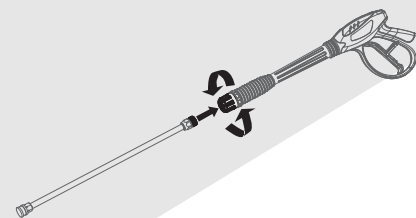

Fig 5
a. Attach the spray wand onto the gun by rotating the coupler nut clockwise until hand tight. Do not overtighten. Figure 5